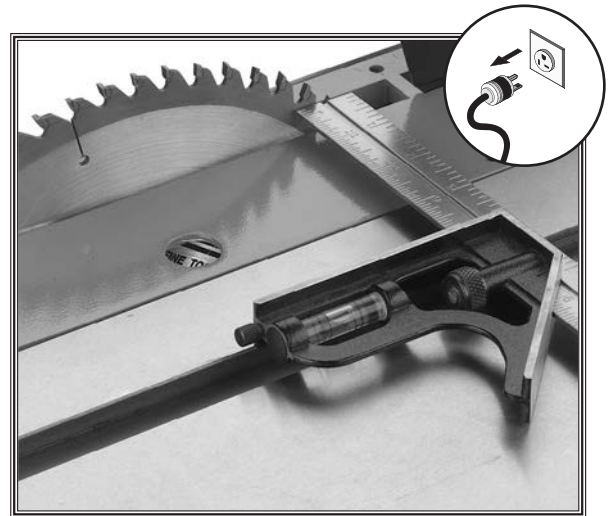

Figure 100. Example of adjusting blade to miter slot.
2. Use an adjustable square to measure the distance from the miter slot to a carbide tip on the blade, as shown in **Figure 100**. Make sure that the face of the adjustable square is even along the miter slot.